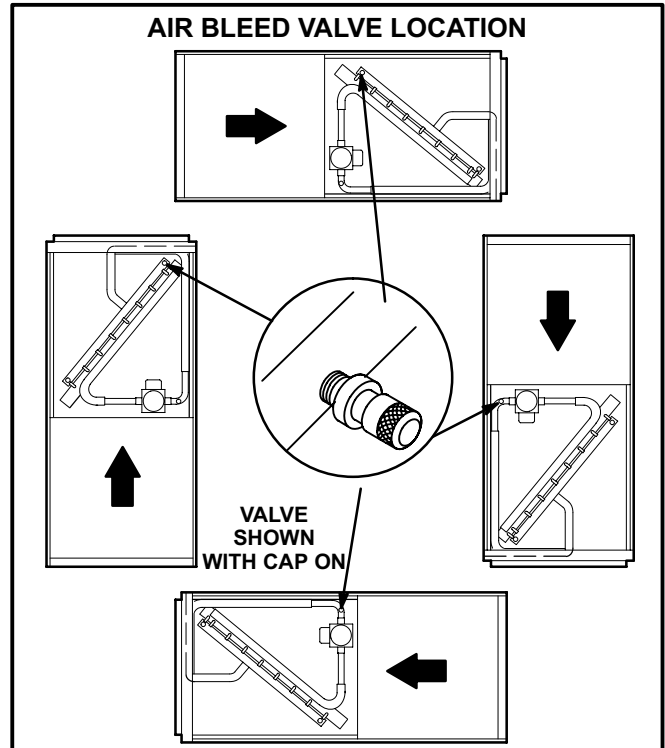

FIGURE 35
- 6 - Remove cap from highest air bleed valve and depress valve stem until water is released. This may be done with a refrigerant style hose. See figure 35.